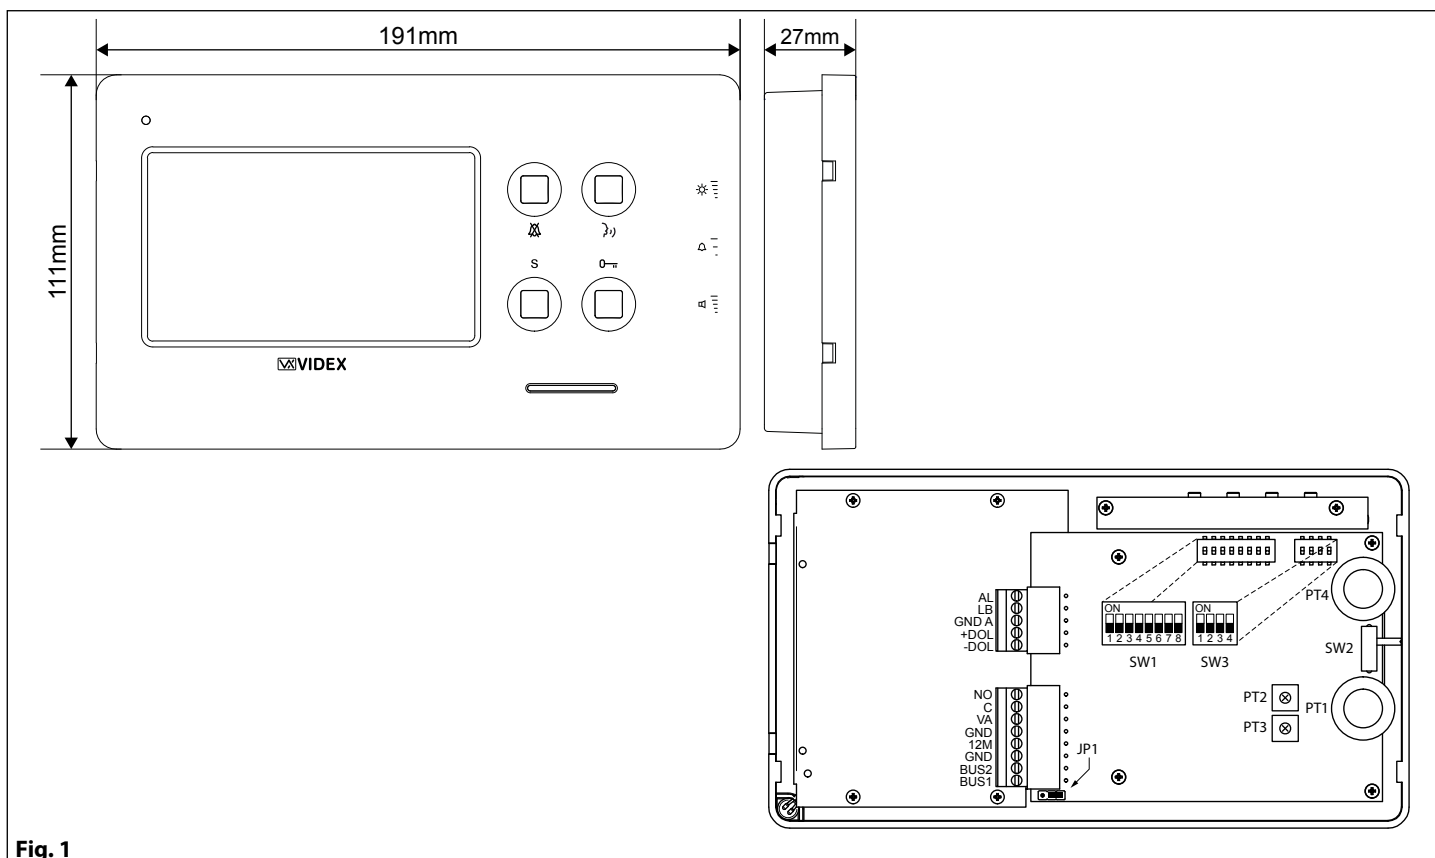

Fig. 1
1. In order to install the videophone, it is necessary to remove the cover, which contains all the electronics, from the base: press lightly on the bottom part of the videophone and simultaneously pulling outwards the upper part as shown in **Fig. 1**.
PUSH BUTTONS (FIG. 1)
LEDS (FIG. 1)
CONTROLS (FIG. 1)